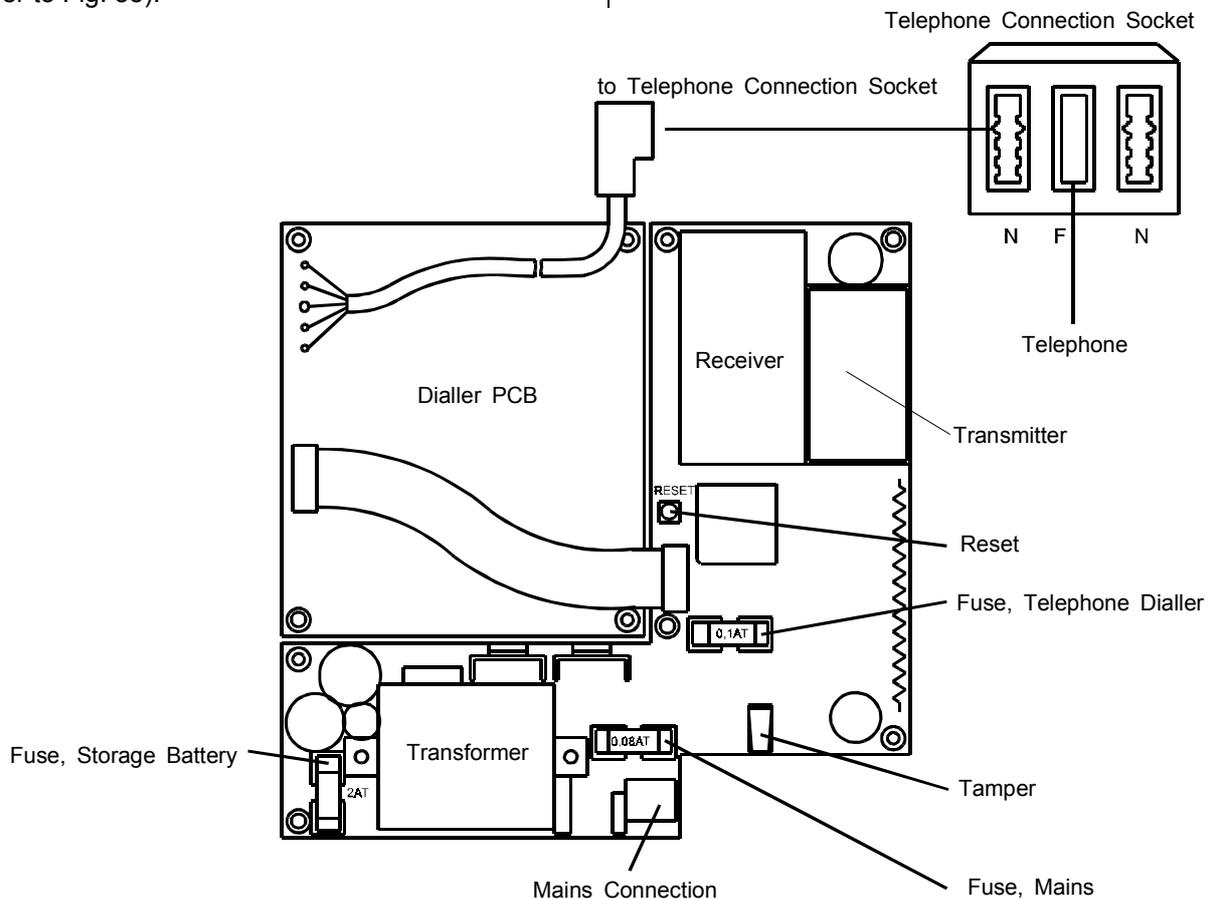

Fig. 35: AWUG Radio Telephone Dialler Connection Diagram
5. Insert the connecting cable to the telephone connection box into left-hand socket "N" (refer to Fig. 35).